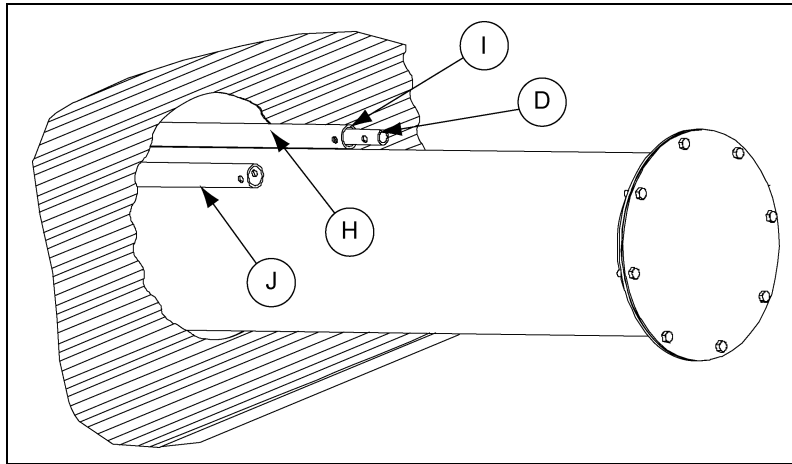

Figure 40
9. Make sure all connections are tight. (See Figure 40.)